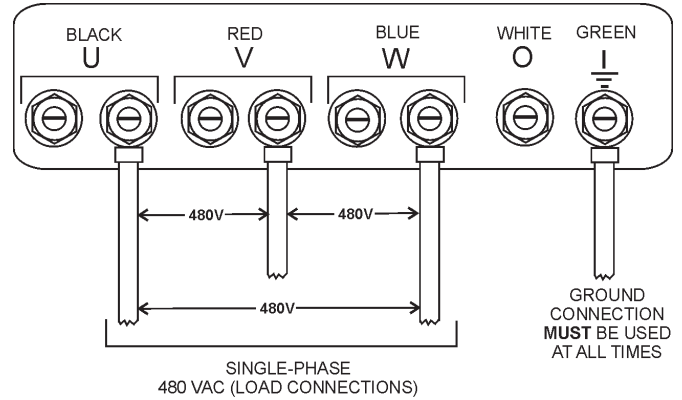

Figure 28. UVWU Terminal Lugs 1Ø-480V Connections
2. Connect the load wires to the UVWU terminals as shown in Figure 28.